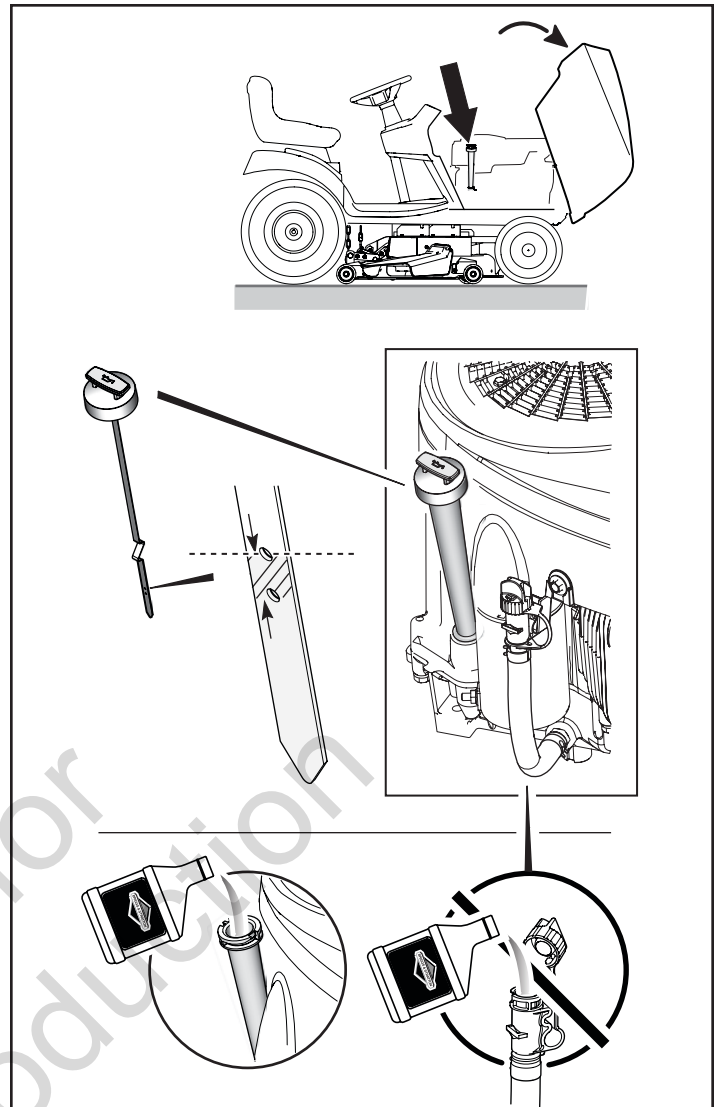

Figure 5
4. Remove the dipstick and wipe with a clean cloth (see Figure 5).